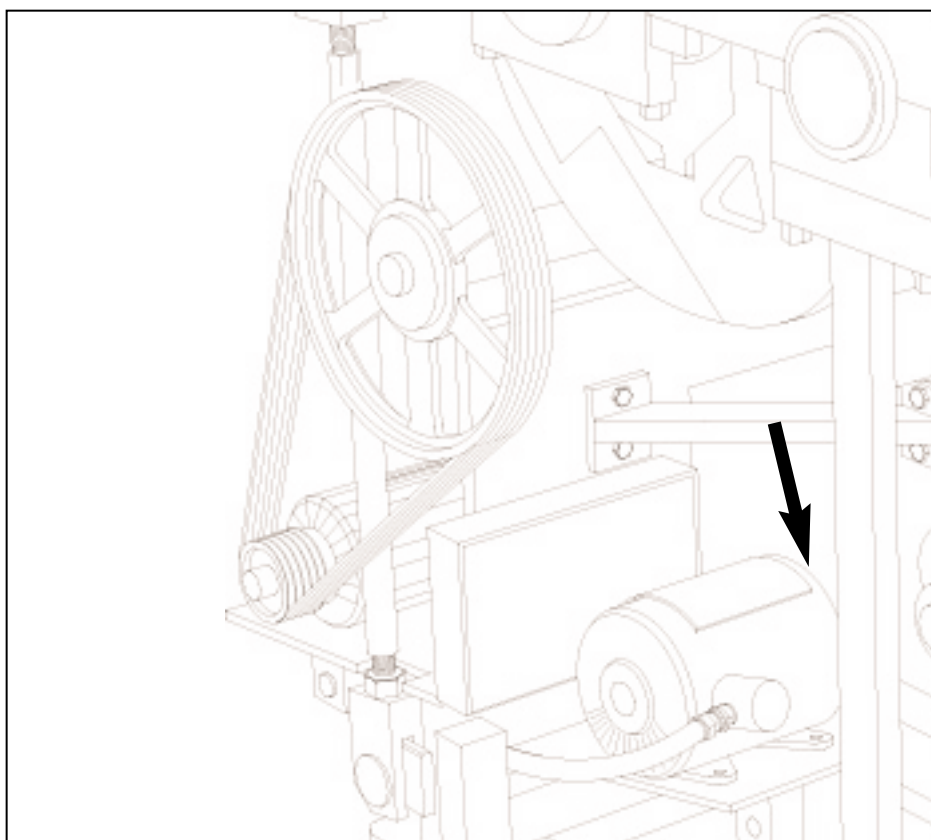

Figure 19.1 MOTOR SHEAVE.
- 19.1.1 For 60 Hz. power install 10.3" [262mm] OD sheave (#112339F2103) on drive motor. For 50 Hz. power install 12.5" [318mm] OD sheave (#112339F2125) on drive motor. Figure 19.1 below shows the location of the sheave.